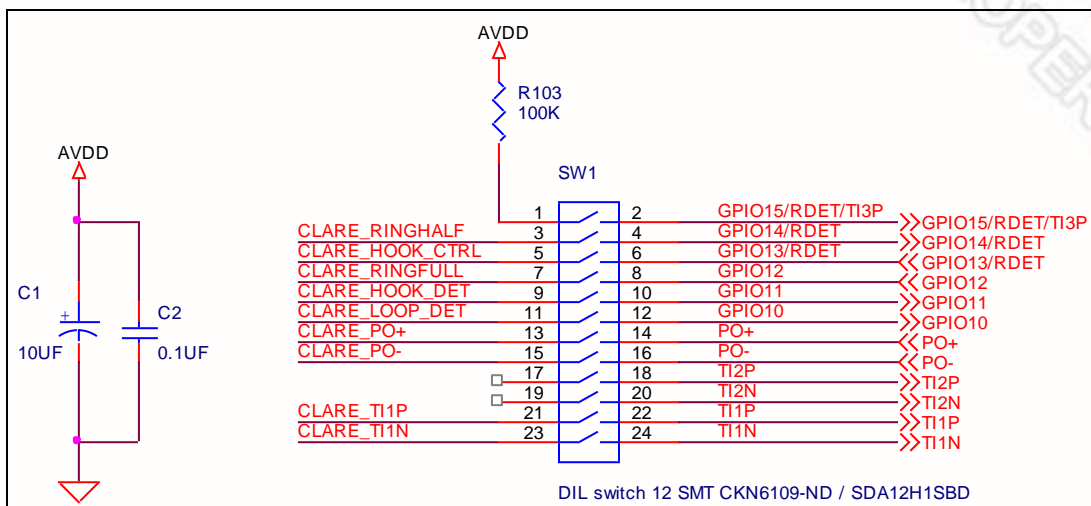

Figure 2-5 Switch of Clare DAA
To use the Clare DAA, users need to switch SW1 (C) as in Figure 2-5 . The switch SW1 (C) of Clare DAA is a counterpart of the switch SW11 of Discrete DAA.